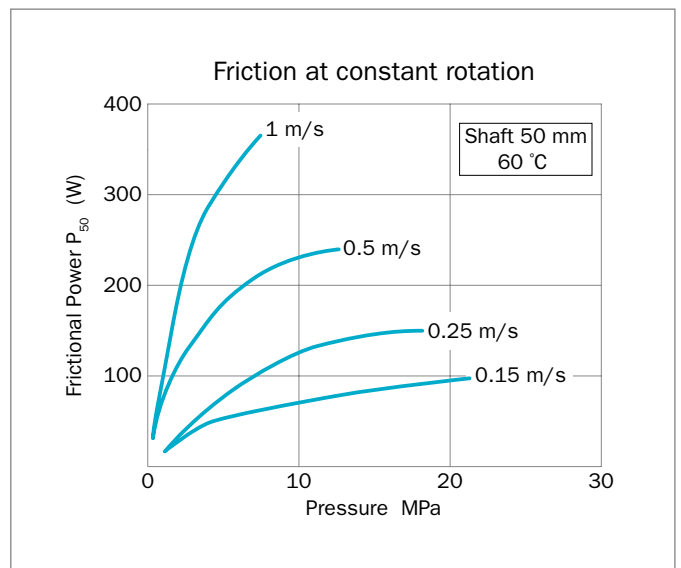

Figure 127: Frictional power for Turcon® Roto Glyd Ring®
Guide values for the frictional power (P) can be determined from the graph in Figure 127. They are shown as a function of the sliding speed and operating pressure for a shaft diameter of 50 mm / 1.968 inch with an oil temperature of +60 °C. At higher temperatures, these application limits must be reduced.